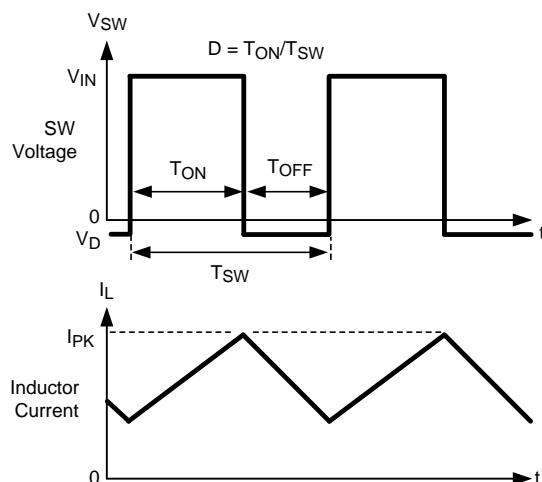

Figure 9. LM2734Z Waveforms of SW Pin Voltage and Inductor Current
The following operating description of the LM2734Z will refer to the Simplified Block Diagram (Block Diagram) and to the waveforms in Figure 9. The LM2734Z supplies a regulated output voltage by switching the internal NMOS control switch at constant frequency and variable duty cycle. A switching cycle begins at the falling edge of the reset pulse generated by the internal oscillator. When this pulse goes low, the output control logic turns on the internal NMOS control switch. During this on-time, the SW pin voltage (V_{SW}) swings up to approximately V_{IN} , and the inductor current (I_L) increases with a linear slope. I_L is measured by the current-sense amplifier, which generates an output proportional to the switch current. The sense signal is summed with the regulator's corrective ramp and compared to the error amplifier's output, which is proportional to the difference between the feedback voltage and V_{REF} . When the PWM comparator output goes high, the output switch turns off until the next switching cycle begins. During the switch off-time, inductor current discharges through Schottky diode D1, which forces the SW pin to swing below ground by the forward voltage (V_D) of the catch diode. The regulator loop adjusts the duty cycle (D) to maintain a constant output voltage.
In the Simplified Block Diagram of Block Diagram, capacitor C_{BOOST} and diode D2 supply the gate-drive current for the NMOS switch. Capacitor C_{BOOST} is charged via diode D2 by V_{IN} . During a normal switching cycle, when the internal NMOS control switch is off (T_{OFF}) (refer to Figure 9), V_{BOOST} equals V_{IN} minus the forward voltage of D2 (V_{FD2}), during which the current in the inductor (L) forward biases the Schottky diode D1 (V_{FD1}). Therefore the voltage stored across C_{BOOST} is